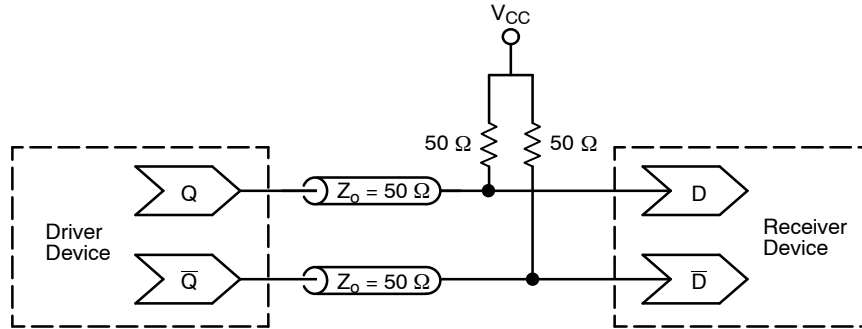

Figure 14. Typical Termination for Output Driver and Device Evaluation
- CML outputs require $50\ \Omega$ receiver termination resistors to V_{CC} for proper operation. See Figure 14.